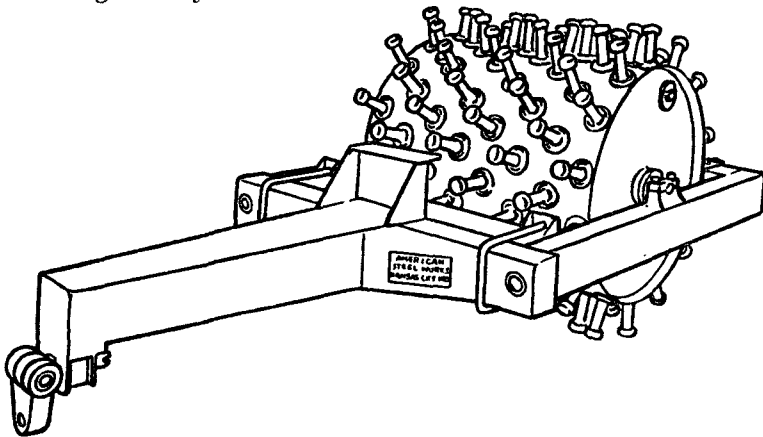

Figure 1. Single roller assembly.
a. *General.* The American Sheepsfoot roller (fig. 1) is made up of the towing frame and cylindrical section positioned in the frame by a shaft through the cylinder.